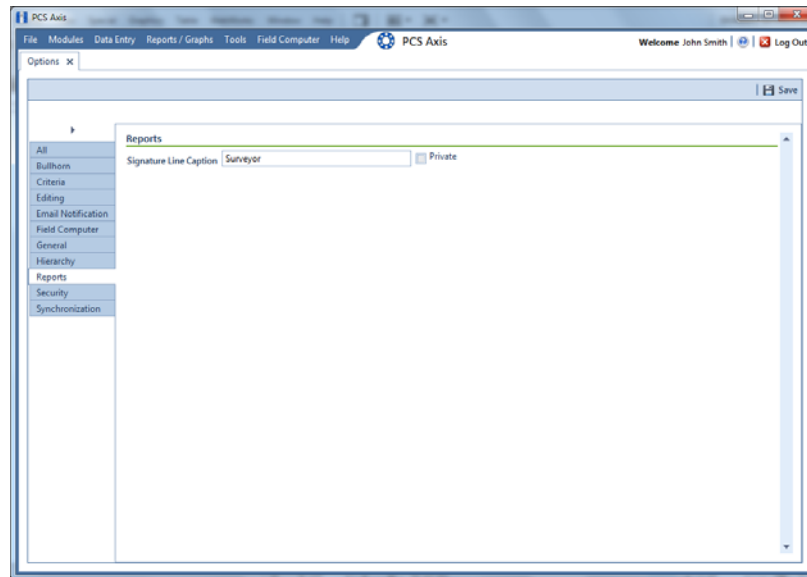

Figure 3-12. Reports
- 2 Click the **Reports** tab to open the *Reports* option page (Figure 3-12, page 49).